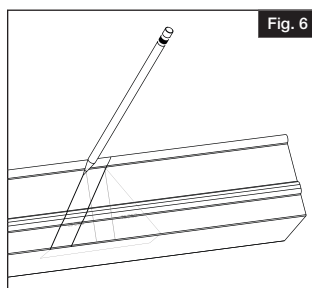
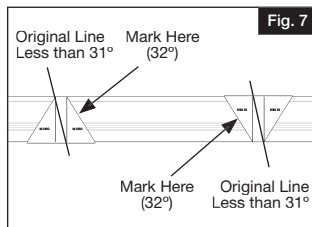

Fig. 6
Fig. 7
- From the original line created by the post, mark another line $\frac{1}{16}$ " on the inside of the bottom rail (closer to the baluster routes) (Fig. 6). This is accomplished by using the angle template (Fig. 7). This additional removal of material will allow for bracket clearance when the rail is installed. For this 26°-31° angle, the new line will NOT be parallel to the previously drawn line.